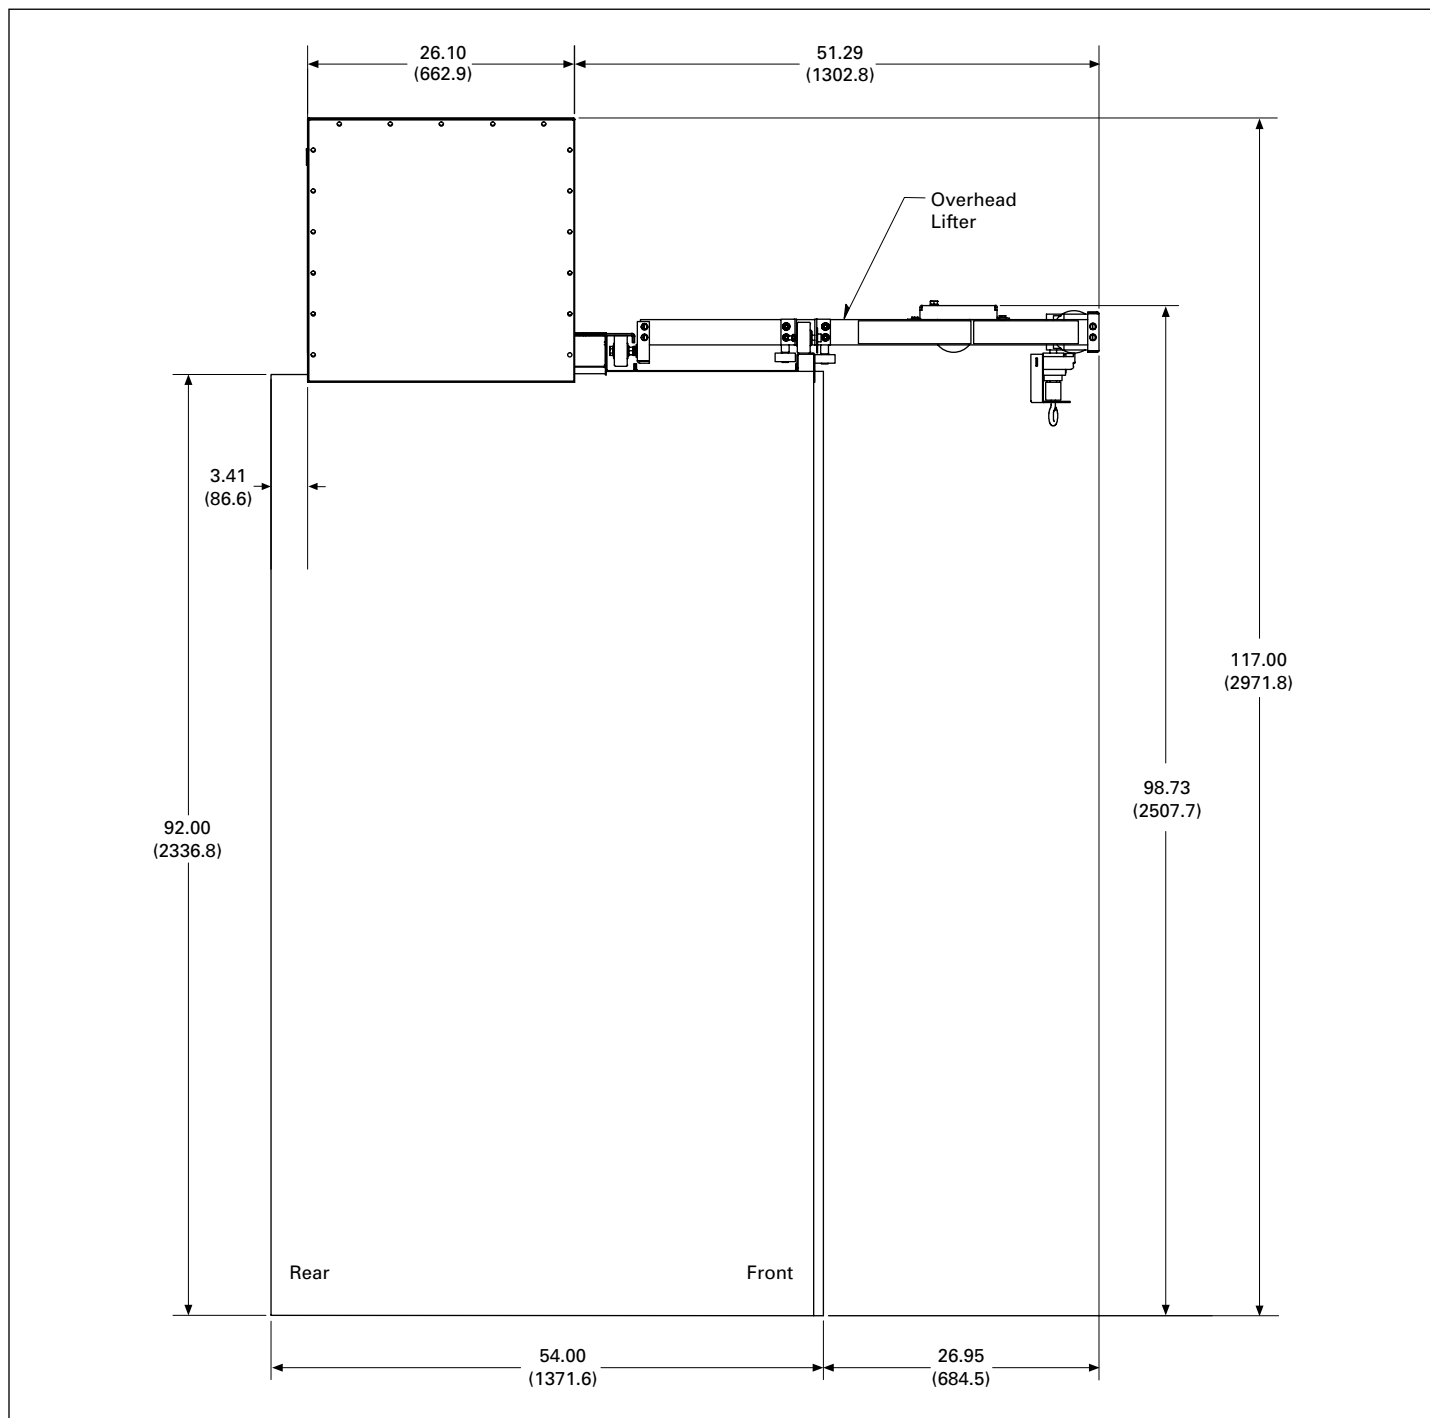

Figure 20.4-10. Arc-Resistant Switchgear Side Elevation (Front-Access) with Plenum—Dimensions in Inches (mm)
① See Figure 20.4-10 Arc-Resistant Switchgear Side Elevation (Front-Access) with Plenum.